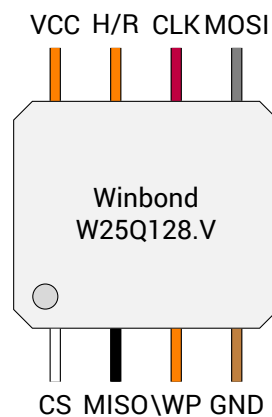

Figure 3: connecting the BusPirate v3.6a with the SPI NOR Flash
Figure 3 shows how to connect the BusPirate v3.6a with the SPI NOR flash chip. Connect the *Chip Select* (CS) pins using the white cable, the *Master In Slave Out* (MISO) pin with the *Data Out* (DO) pin using the black cable, the *Master Out Slave In* (MOSI) pin with the *Data In* (DI) pin using the grey cable and the *Clock* (CLK) pins using the purple cable. Further, the *Ground* (GND) pins should be connected using the brown cable and the 5V and the VCC pins should be connected with the orange cable. In order for the SPI NOR flash chip to function, the H/R pin of the SPI NOR flash chip should be pulled high, this can be done by connecting the 5V pin with the H/R pin. Finally, to be able to program the chip in case write-protection has been configured before, we have to make sure that the *Write-Protect* (WP) is pulled high to disable write-protection.